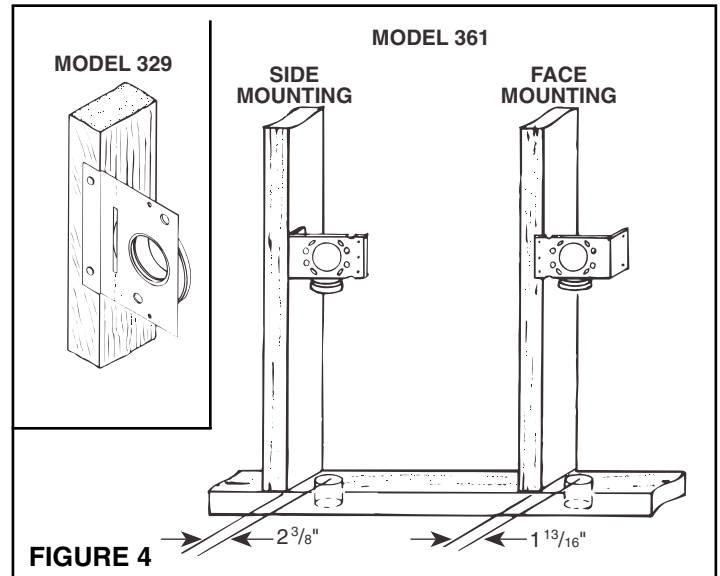

FIGURE 4
3. **Refer to Figure 4.** Model 361 for using 360 inlet. Nail bracket to side of stud so that front edge of bracket is flush to front of stud. (The bracket may also be nailed to the front edge of the stud. For front stud mounting, use locating tabs on bracket for proper alignment.)